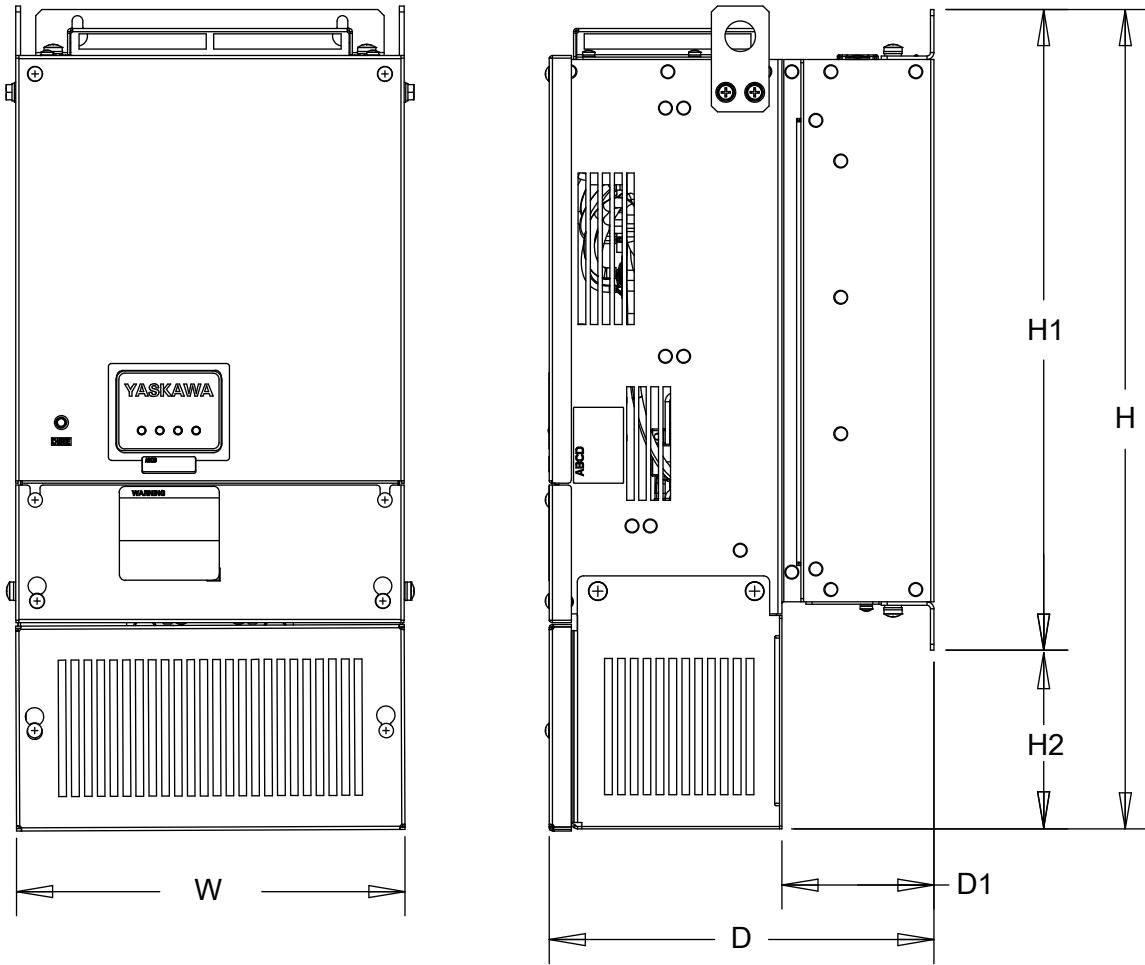

Figure 2.1 Exterior and Mounting Dimensions
2. Use the information in Figure 2.1 and Table 2.1 to make sure that SPC with the installed kit will fit in the desired installation location: